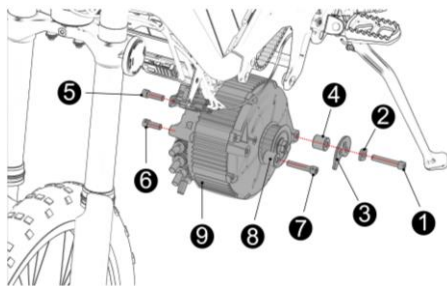

Fig 44
11.15 Disassemble electrical machine assembly (see Fig 44)